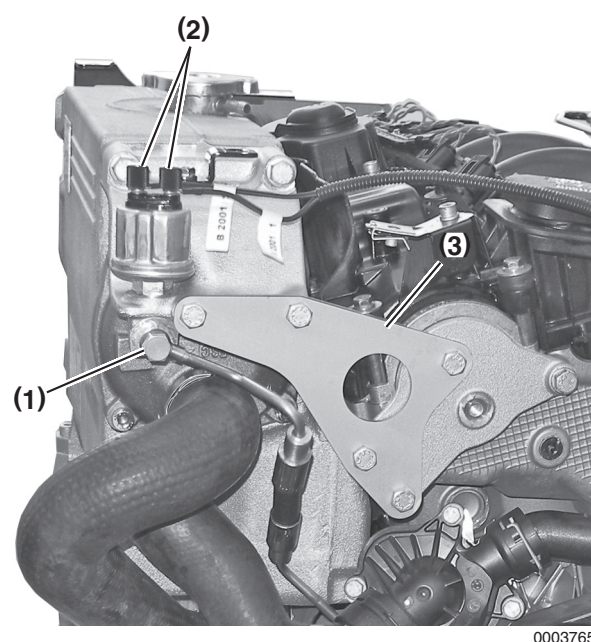

Figure 5-9
4. Remove the banjo bolt (**Figure 5-9, (1)**) securing the oil pressure sender line to the front heat exchanger mount. Disconnect wires (**Figure 5-9, (2)**) from oil pressure sender.
6. Remove front and rear heat exchanger mounting brackets (**Figure 5-9, (3)**).